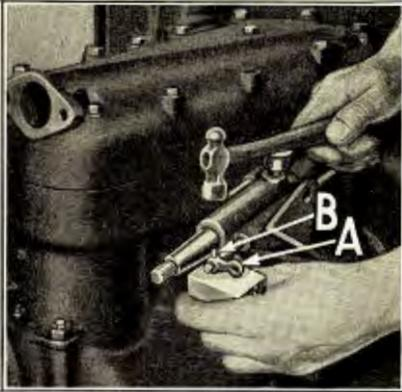

Fig. 96
- (b) Install lead rod lever (See "A" Fig. 96) on lead rod by slipping lever over end of rod and locking it in position by driving lead rod lever pin "B" through lever and lead rod; the ends of the pin are then riveted.